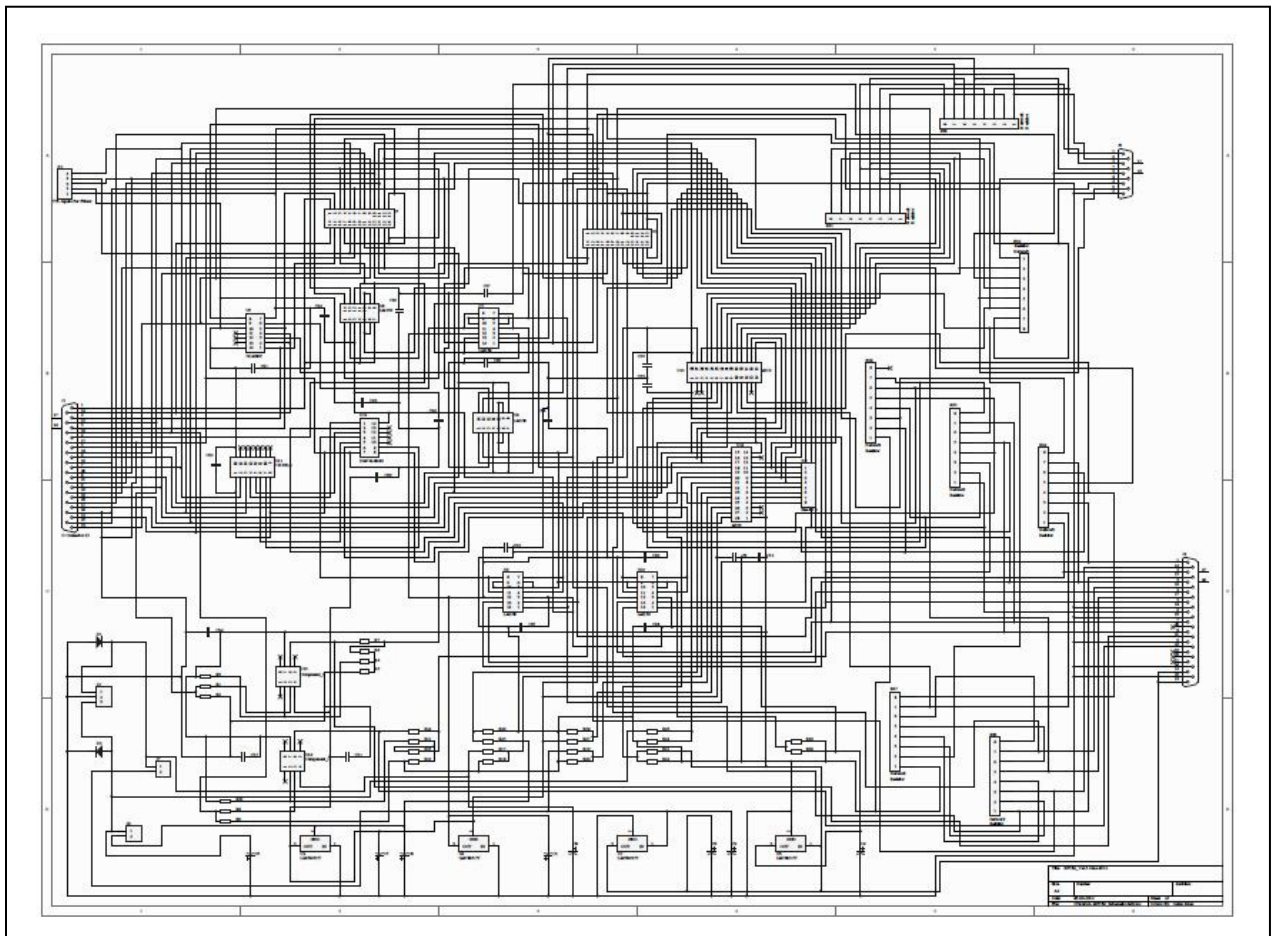

Fig.3 Schematic Diagram of RFCM card Ver.1
4. Figure 3. Schematic Diagram of RFCM card Ver.1.....	Page 10
To start with the re-designing, first all point to point connections were traced from the existing PCB using a multi-meter in order to understand the signal flow. Using the datasheets for all the IC's on the board and the signal flow, the logic was verified at each and every pin on the IC's and I/O connectors. Based on this study a schematic was re-drawn using Altium Software as shown in fig.3. The schematic was analysed in detail for all the functionalities. Then the layout was designed by